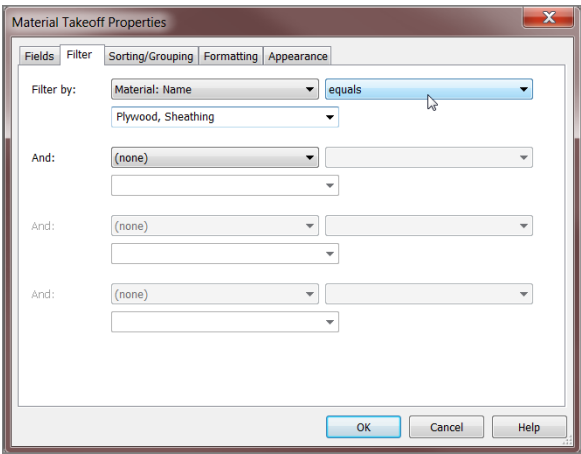

FIGURE 11.32: Filtering based on material
- 7. In the field below Material: Name, select Plywood, Sheathing (see Figure 11.32).